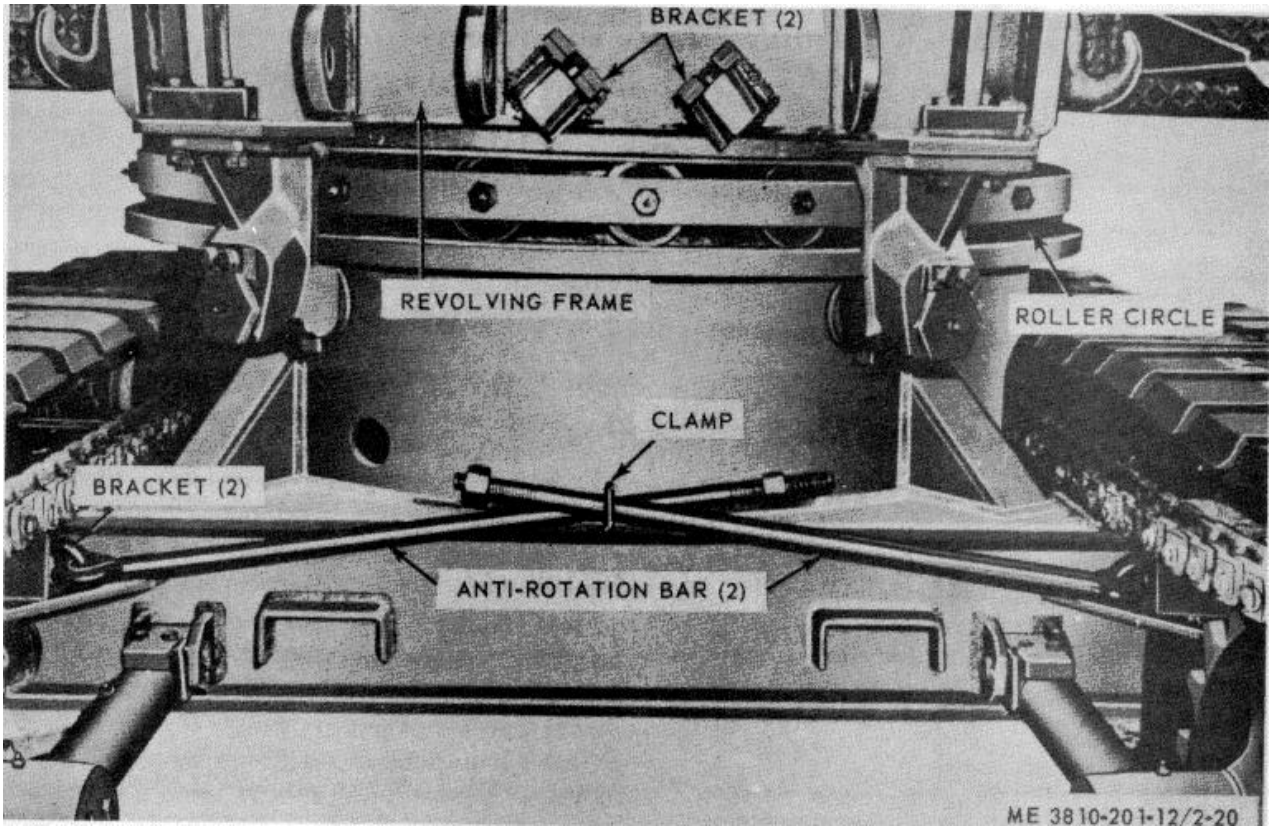
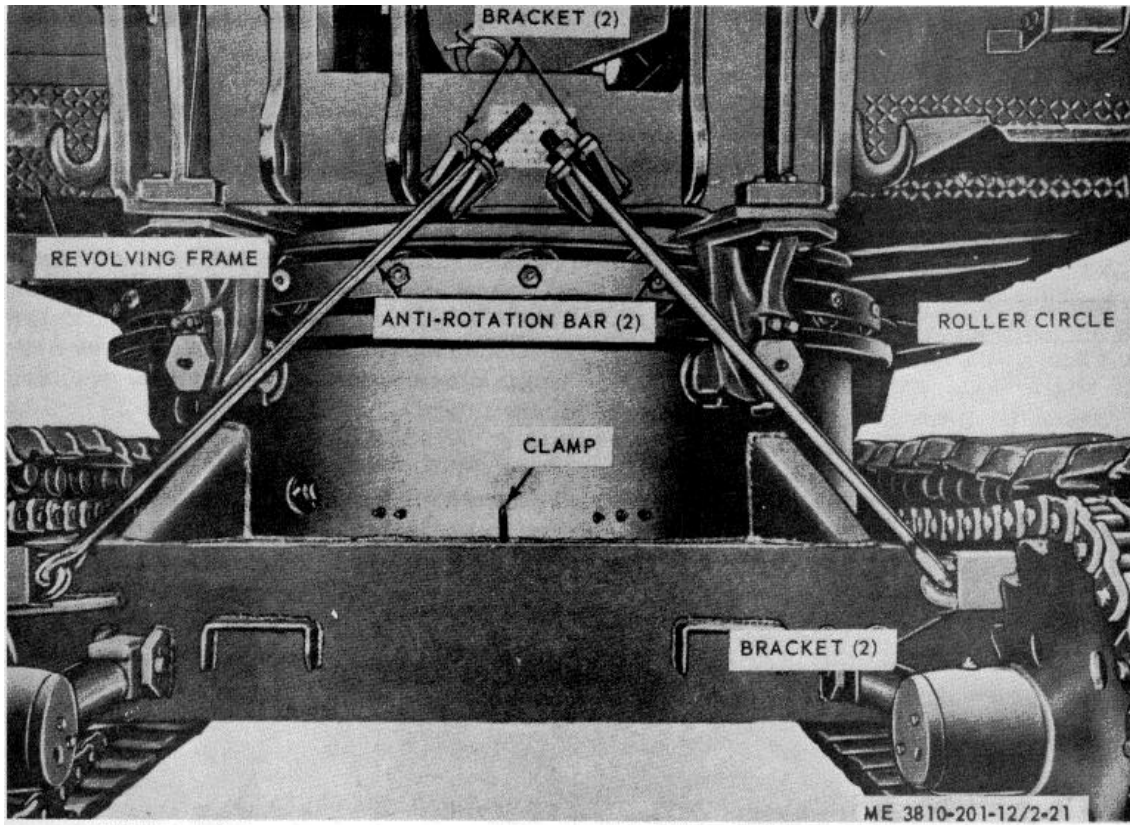

Figure 2-20. Anti-rotation bars, stowed.
Figure 2-21. Anti-rotation bars, installed.
(1) Prepare crane-shovel for temporary storage as directed in TM 740-93-1.
(2) Remove anti-rotation bars from their stowed position (fig. 2-20), and install (fig. 2-21), to prevent cab and platform movement.
(3) Remove floodlights (para 3-181) and pack them in a box, protected by ample quantities of cushioning material.